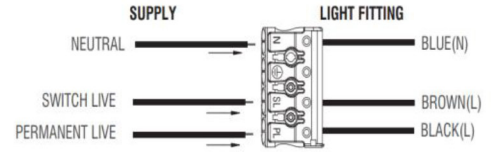

Fig 2
9. Maintained Operation: Fig 2